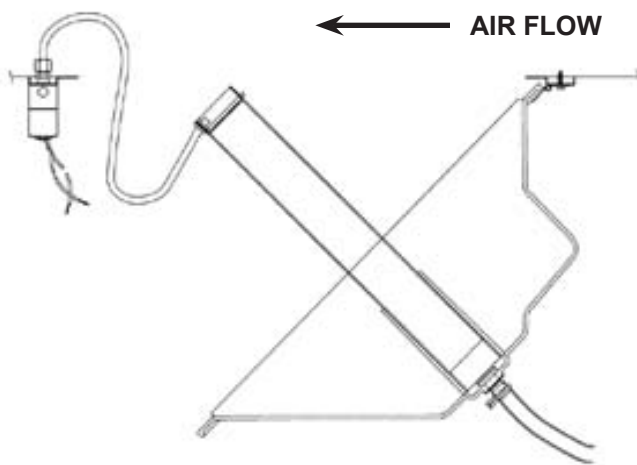

FIGURE 12: Insertion of Model 55 Evaporator Pad and Water Tube
2. Place the evaporator pad between the two guide rails in the bottom of the pan, then place the pad frame/drip tray assembly over the evaporator pad, with the rubber grommet facing you. Insert the rubber water tube into the rubber grommet, as shown in Figure 12, below.